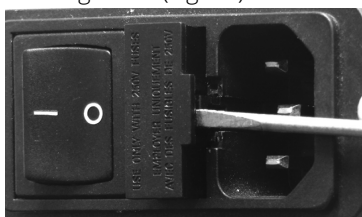

Fig. 66—Insert the screw driver under the fuse housing lip and pry the housing open.
3. Insert a small flat blade screwdriver under the lip on the right side of the fuse housing cover (Fig. 66).